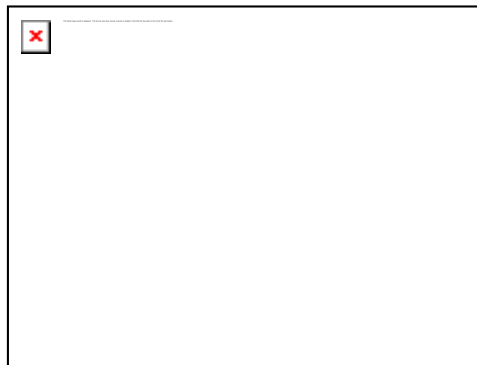
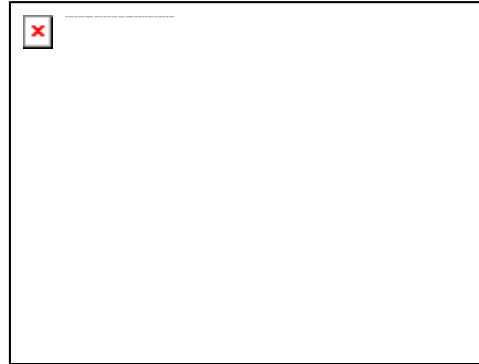

Figure 13. Engine adaptor on bank one.
Figure 14. Engine adaptor on bank two.
3. Install engine adaptors on the appropriate banks (Figure 13 and Figure 14).